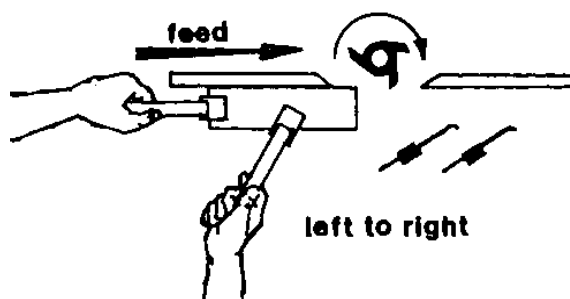

Figure 24
*Clockwise Setup* – With the cutter installed as shown in Figure 24, feed the workpiece from *left to right*.